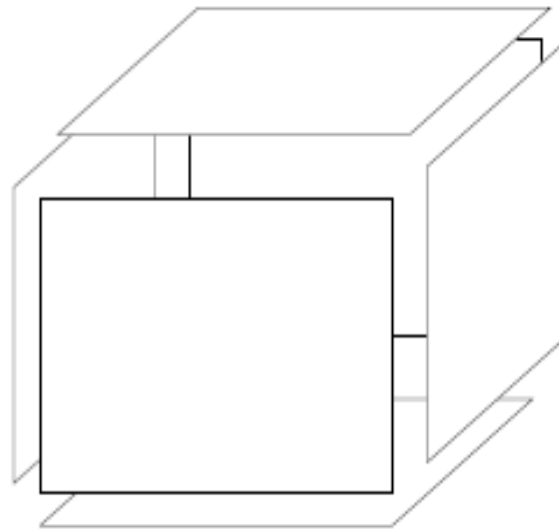

Figure 2: Surface model of a cube.
- In surface modeling, objects are defined by their bounding faces as shown in Figure 2.